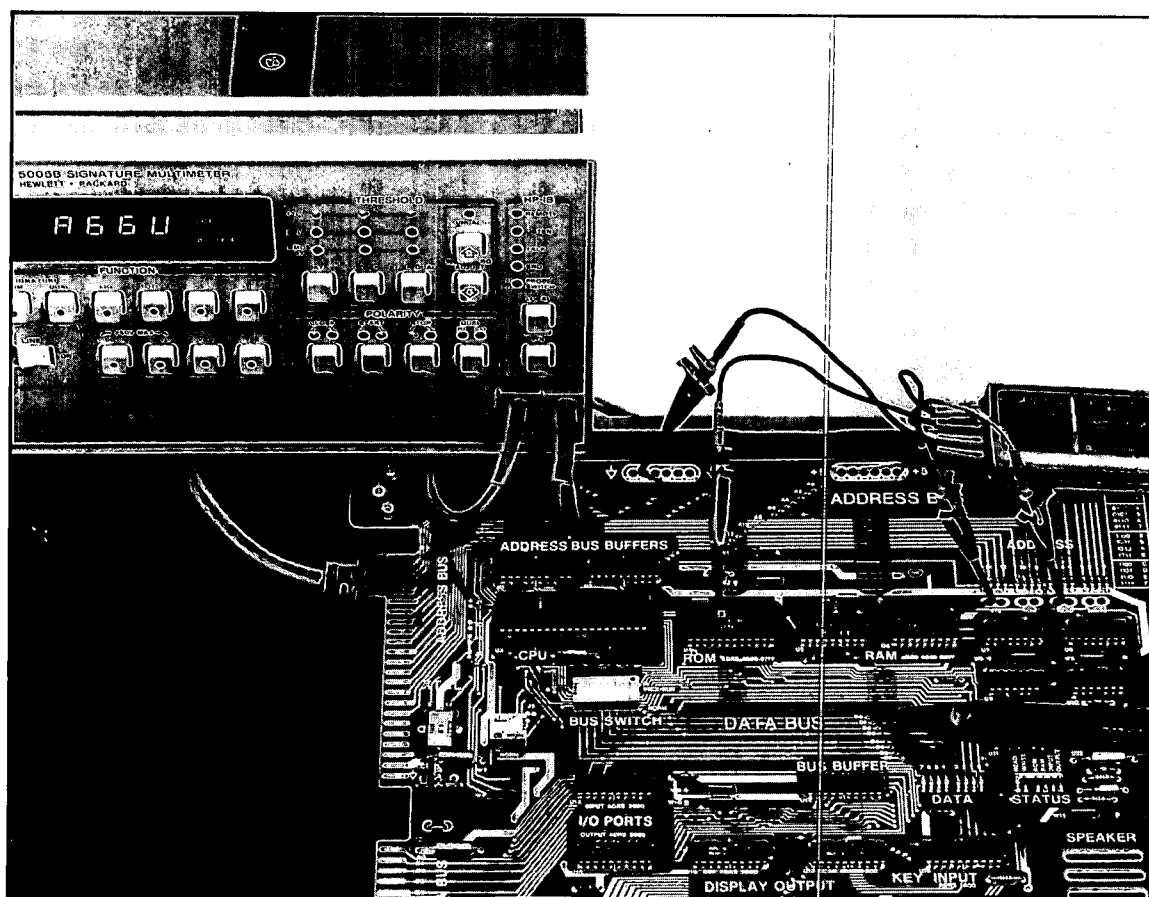

Figure 4-9. Signature Analysis QUAL Mode Operation Verification Test Setup
- e. Connect the 5005B to the 5036A as shown in Figure 4-9.